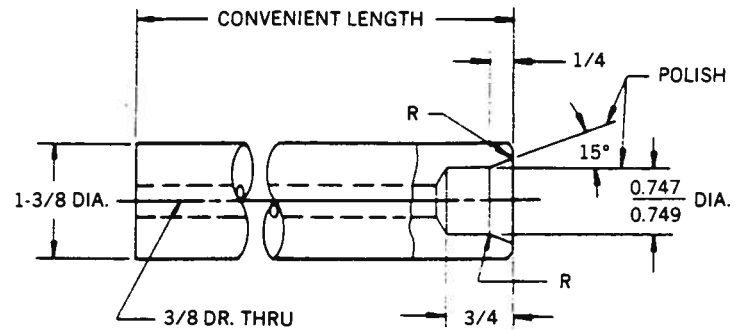

Figure 8-7. Piston Ring Sizing Tool
New ring must be sized before installing bearing cap assembly (1). To facilitate sizing, fabricate tool from diagram (see figure 8-7).